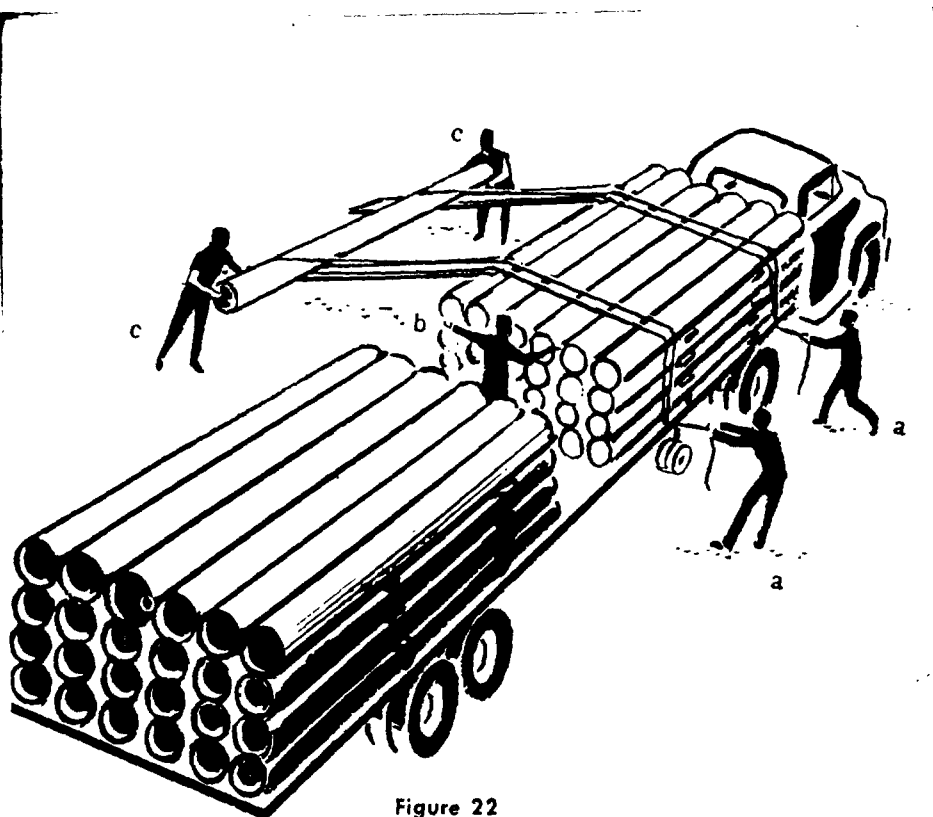

Figure 22
3. Use two lengths of rope at least 50 feet long as slings. Tie one end of each rope to the stakes placed in the previous step. (Figure 22)
4. Run the free end of each rope under the top layer of pipes, and double the rope back across the top of the load. (Figure 22)
5. Place two sturdy skids at least 14 feet long at the edge of the pipe to be unloaded. The top of the skids should be beveled. (Figure 22)
7. For 6" and 8" pipes, station a man at one end of the pile to start the pipe down the skids. Two snub lines located on the pipe as illustrated in Fig. 22 are sufficient to lower the pipe down to the ground men. **DO NOT ALLOW MEN ON TOP OF LOAD AFTER THE BANDS ARE CUT.**
When unloading pipe 10" to 16" a crew of five men is required: one man snubbing rope at each snubber on the opposite side of unloading (a); one man at the end starting pipe on skid (b); and two men receiving pipe on the ground (c). (Figure 22)